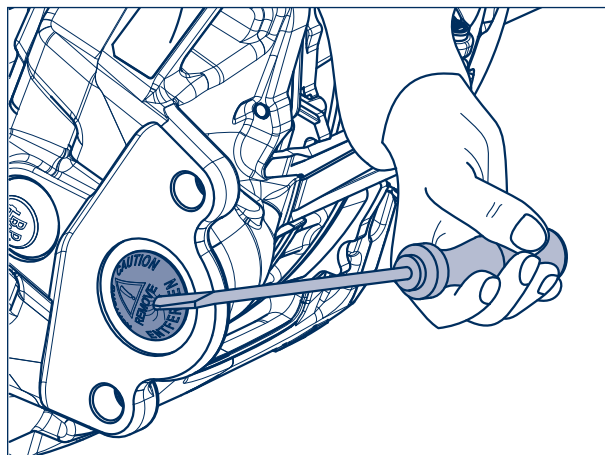

Figure 4
- [6] Remove the plug (figure. 4/arrow) for venting from the downwards-pointing bore hole in the new brake cylinder (410).